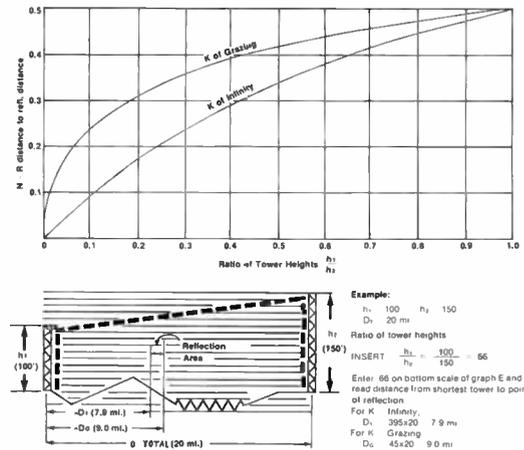

Figure 3
8. If the microwave path includes an over-water area, adjust tower heights to avoid multipath reflections (Figure 3).